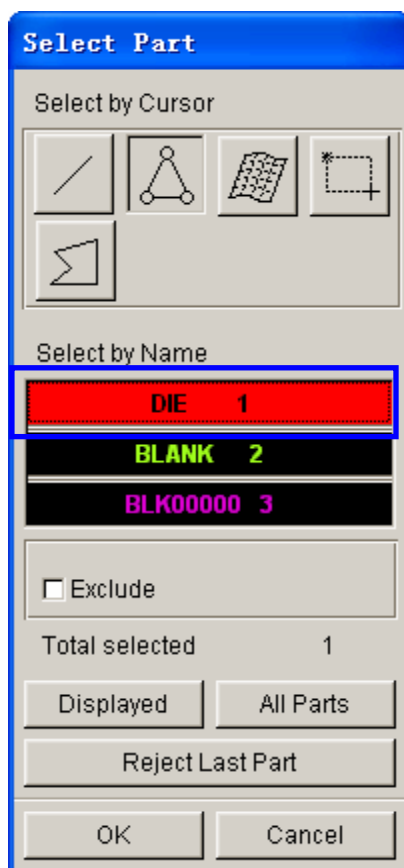

Figure 5.44 Select part dialog box
6. Select **DIE** part from the SELECT PART dialog box illustrated in Figure 5.44.